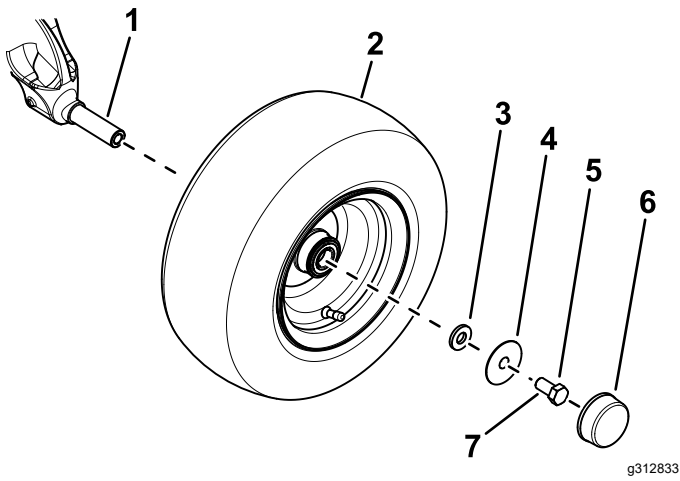

Figure 3
- B. Use a small washer, large washer, bolt (5/8 x 1-1/4 inch), and to secure the wheel to the axle spindle (Figure 3).
D. Install the dust cap to the wheel (Figure 3).